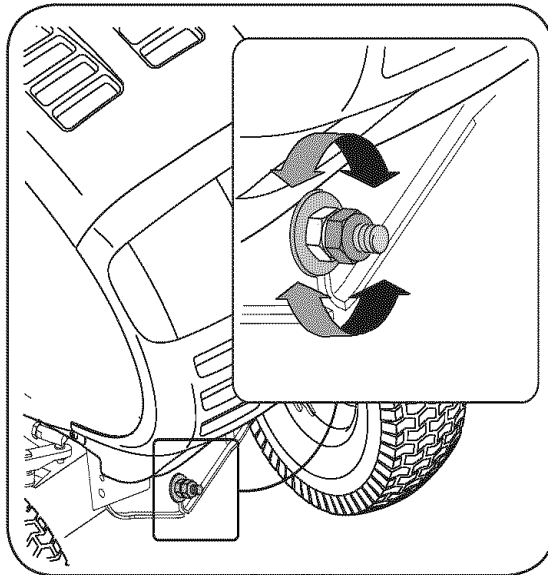

Figure 5-1
3. Locate the jam nut and lock nut on the front side of the stabilizer bracket. See Fig. 5-1. After loosening the jam nut: